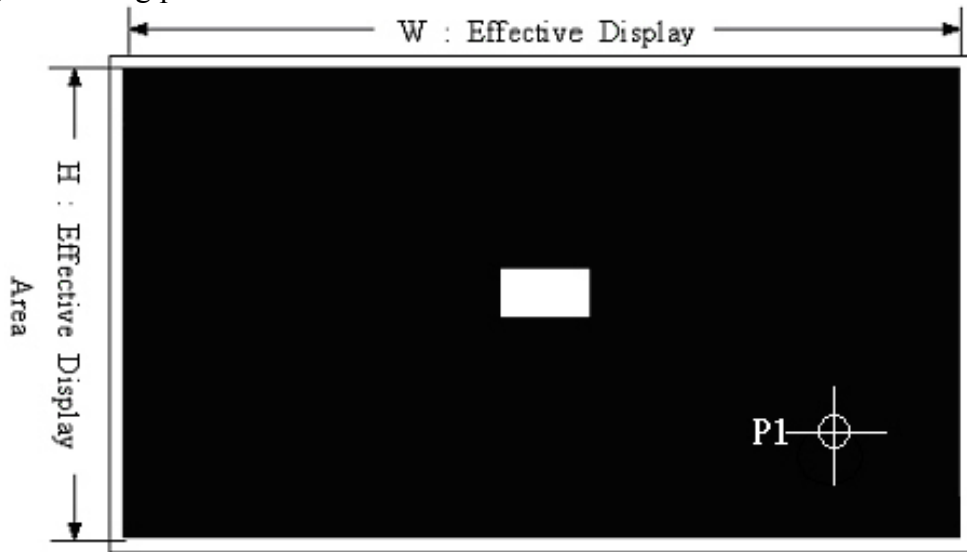

Figure 4. Measurement point
1. For mass production test purposes, it is recommended to measure just 1 point, P1 of Figure 4 on display pattern of Figure 3.
(5) Ambient Light : Dark Room (<2 lux)